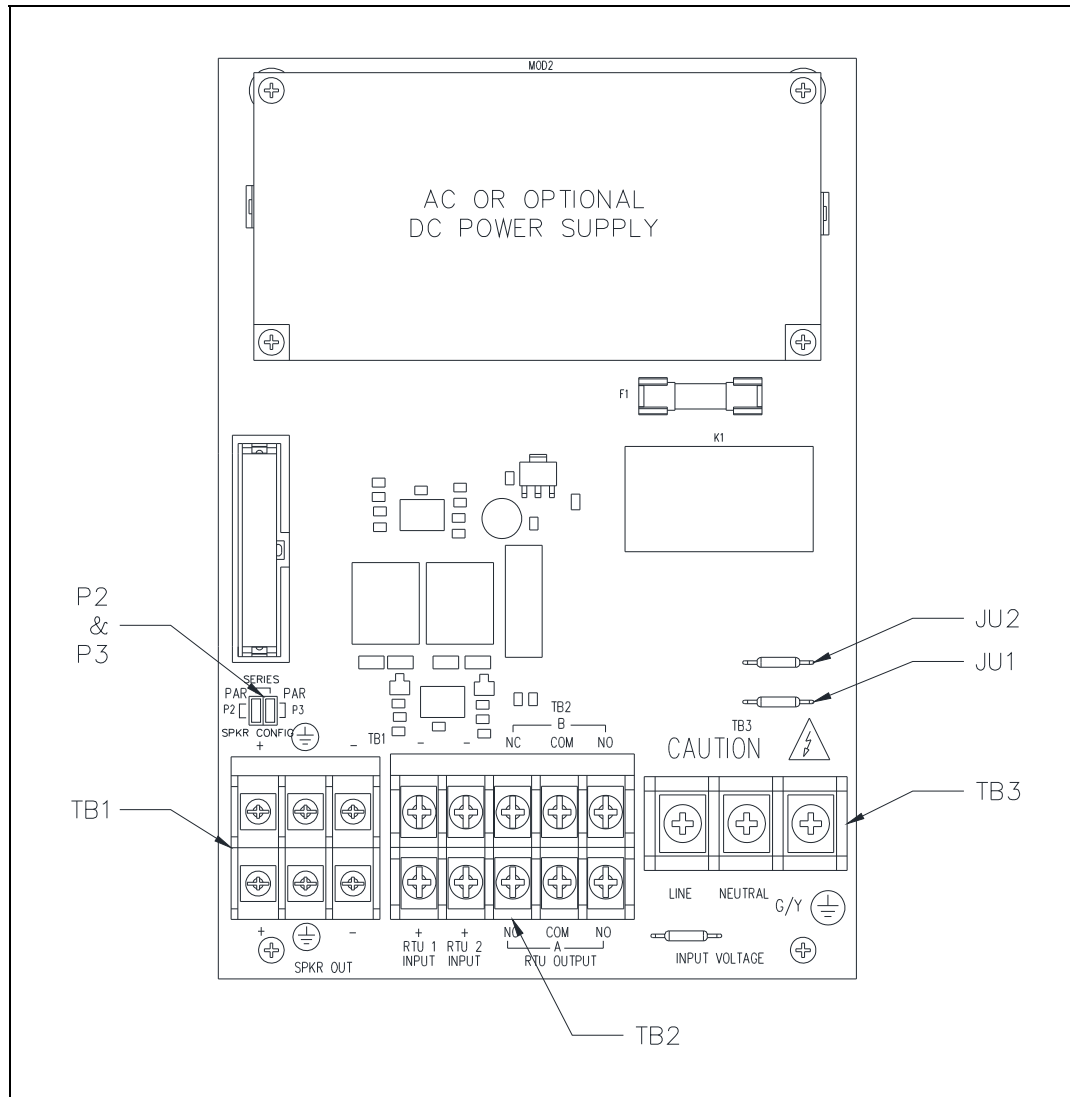
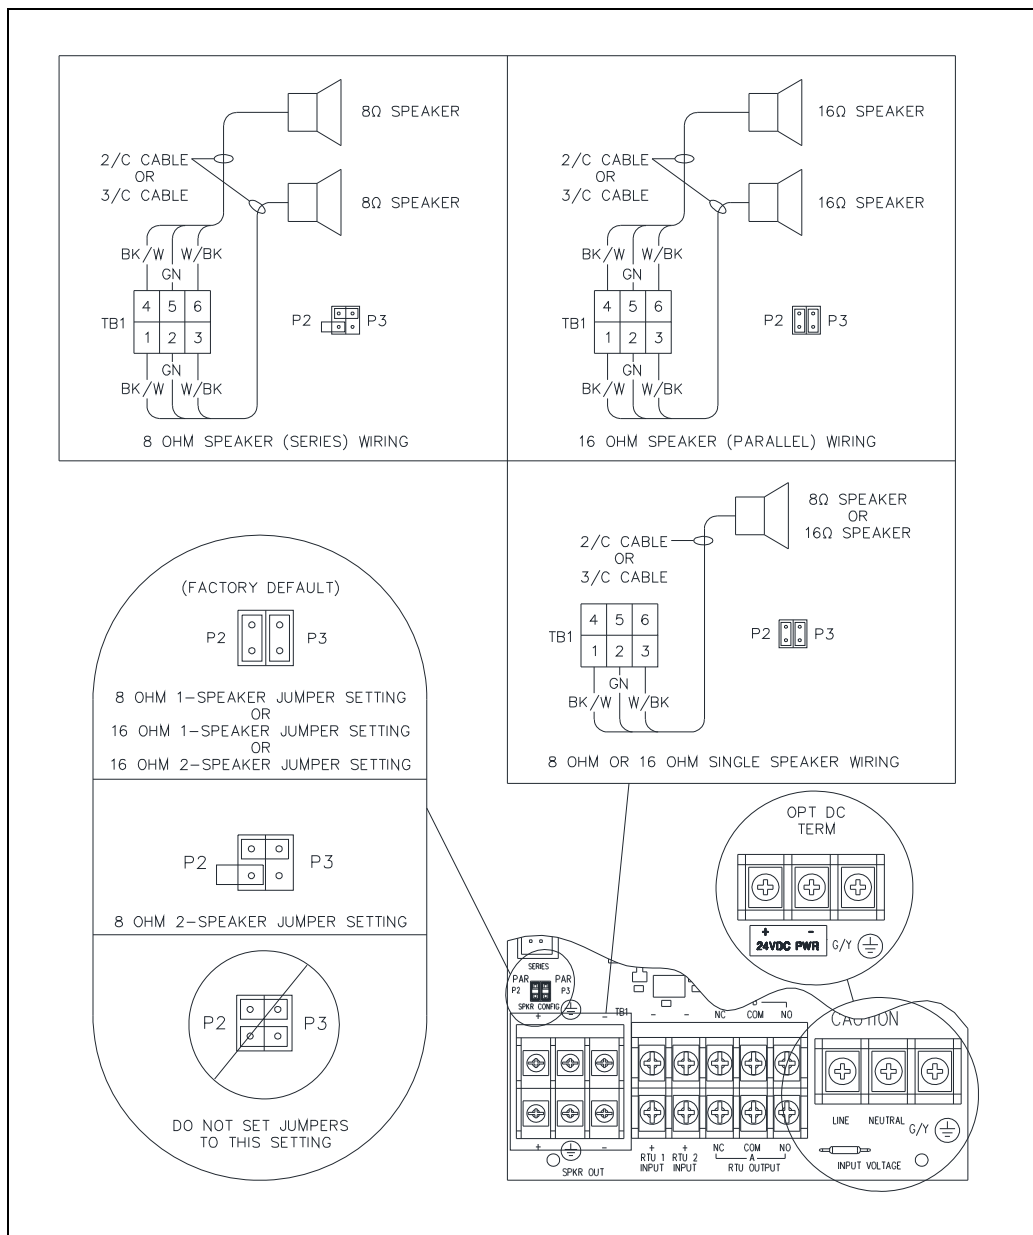
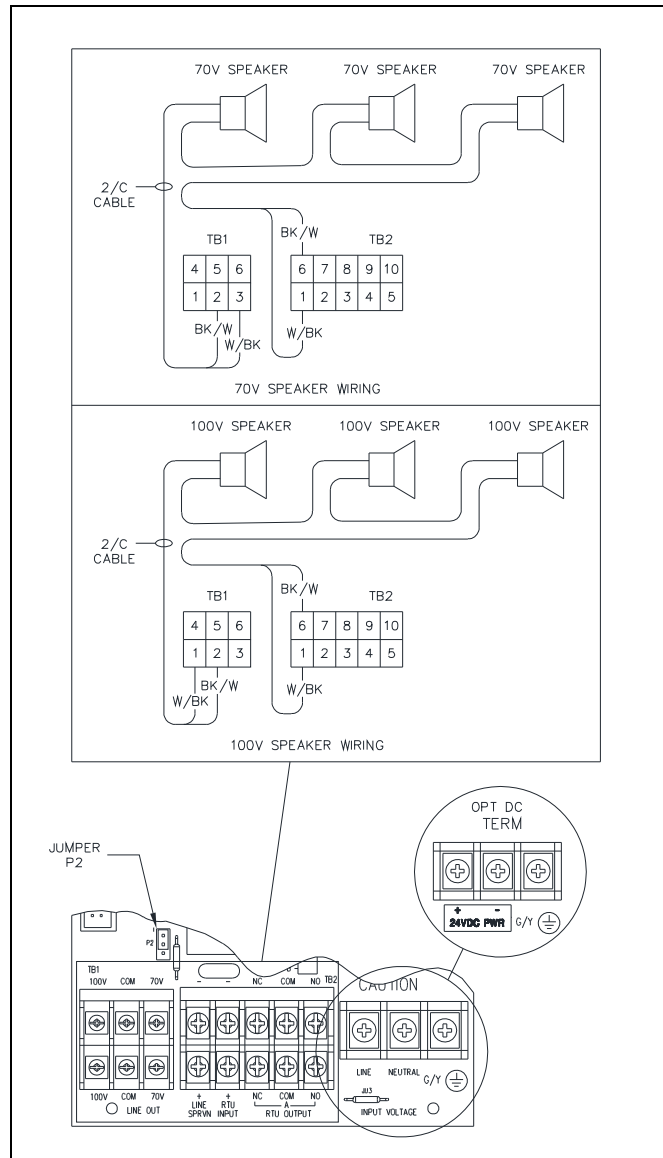
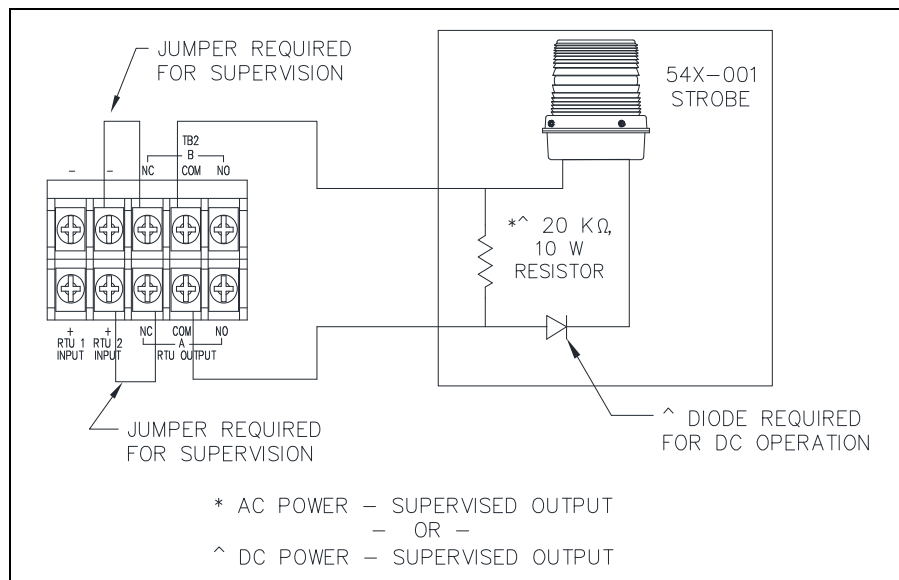

Figure 4. SP2 Standard Termination PCBA
Figure 5. 8/16-ohm Speaker Impedance Configuration and AC/DC Termination at TB3
Figure 6. 70-V/100-V Termination PCBA
Figure 8. Supervised Output Wiring—TB2
5. Configure the speaker jumpers; P2 and P3, for the appropriate impedance for use with 8-ohm or 16-ohm speakers (see Figure 4 and Figure 5).
The optional 70-volt/100-volt speaker line-monitoring PCBA replaces the standard termination board and enables connection of 70-volt and/or 100-volt speakers to the SP2 station. Terminal block TB1 provides termination for the station’s speaker loop(s). Wire all speakers in parallel. Monitor one speaker loop by terminating the return cable to the LINE SPRVN terminals at terminal block TB2 (see Figure 6 and Table 2).
The standard termination PCBA contains two auxiliary RTU inputs. The optional 70V/100V termination board provides for speaker line monitoring and has just one auxiliary RTU input. These inputs are terminated at terminal block TB2 (see Figure 4).
Two form C contacts are provided to power a beacon (see Figure 8). Terminate the outputs at terminal block TB2 on the termination PCBA (see Figure 4). Remove jumpers JU1 and JU2 to configure the outputs for dry contact use.
5. Install a 20-kilohm 10-watt resistor across the terminals of the beacon cable (see Figure 8).
The ac or optional dc power supply is on the termination PCBA. Connect the local ac or dc power source to terminal block TB3 (see Figure 4, Figure 5, or Figure 6):